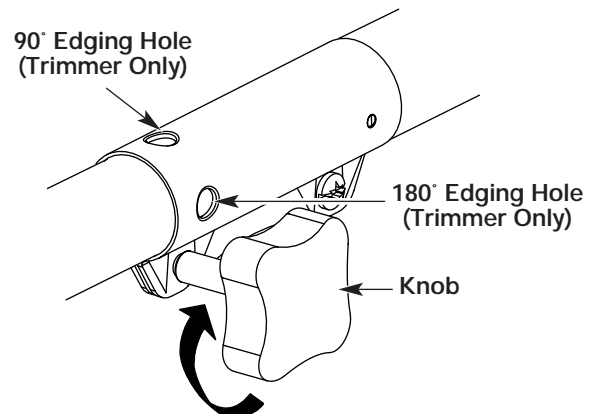

Fig. 21
3. Turn the knob clockwise to tighten (Fig. 21).
For edging (when using the line head cutting attachment with EZ-Link™ models), lock the release button of the cutting attachment into the **90° edging hole** or the **180° edging hole** (Fig. 21).